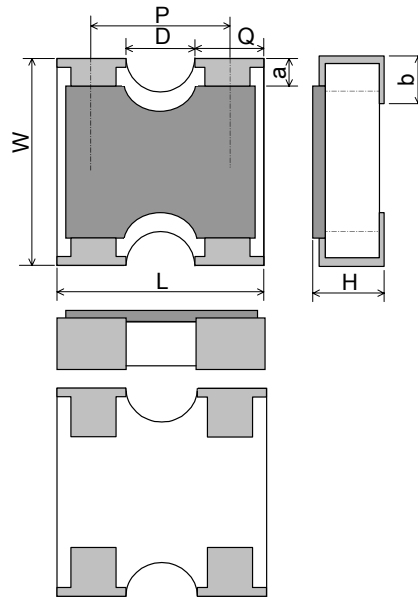

Figure-1
5.1 The resistor shall be of the design and physical dimensions in accordance with Figure-1 and Table-3.